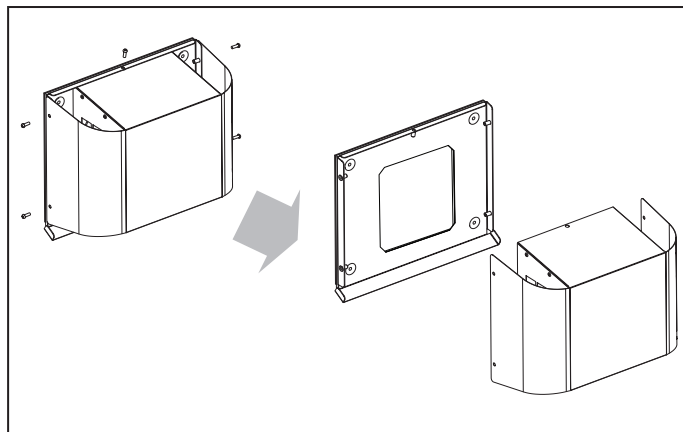

Fig. 16b.
- Fig. 16b - for VENTO V50-1 S. Loosen these 5 screws and take off the front part of the outer ventilation hood.